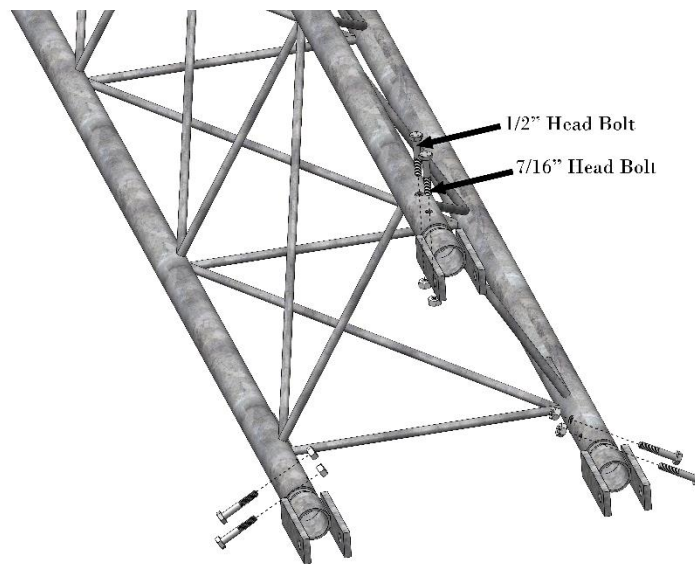
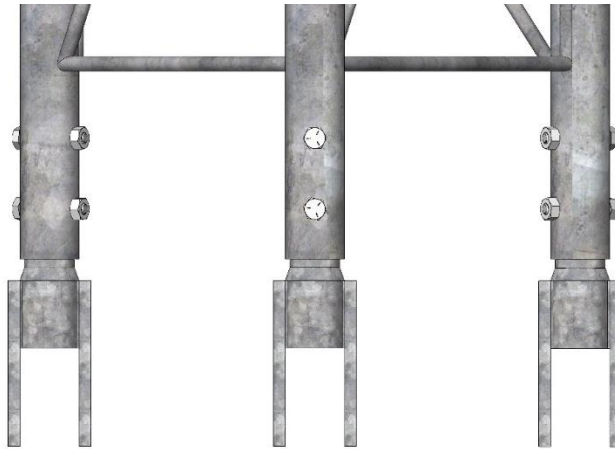

Figure 43 Rohn hinge assembly
Figure 44 Assembled Rohn hinges
2. Secure the (3) Rohn hinges to the bottom of the 40' Kuva Tower using (3) 7/16" head bolts, and (3) nuts. Then secure using (3) 1/2" bolts, and (3) nuts as per Figure 43. Orient each Rohn hinge so they match Figure 44.